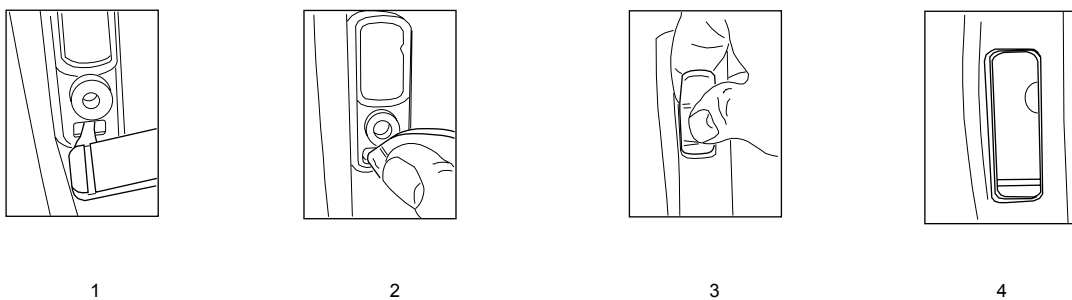

Figure 7-11. Dust Cap Re-assembly
1. Insert the tail of the dust cap into the bottom hole of the audio jacks housing opening (Figure 7-11).